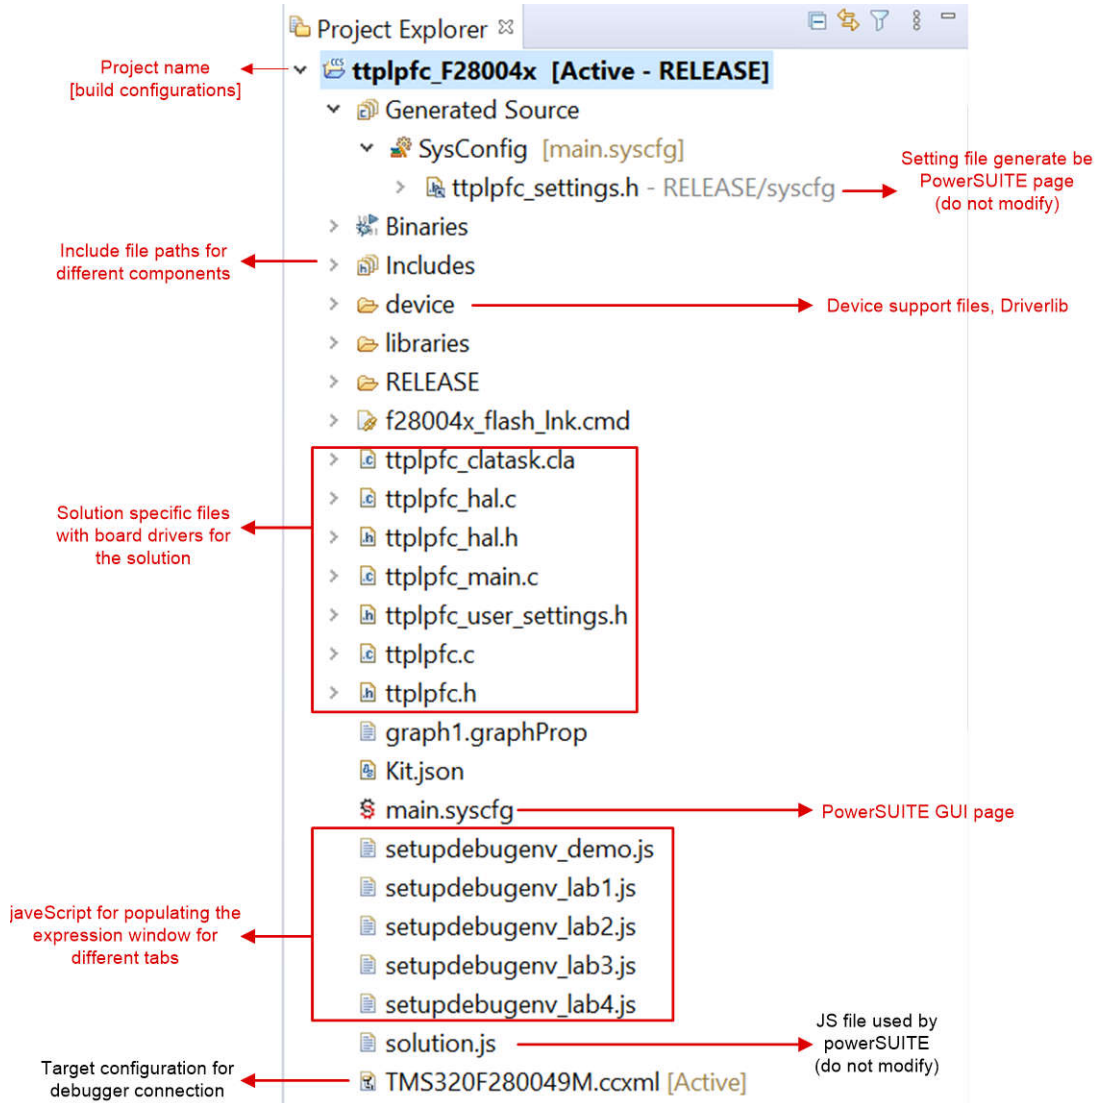

Figure 3-2. Project Explorer View of PFC Solution Project
Once the project is imported, the project explorer appears inside CCS as shown in Figure 3-2.
3. In the *Project Explorer* make sure the correct target configuration file is set as Active under targetconfigs (Figure 3-2).